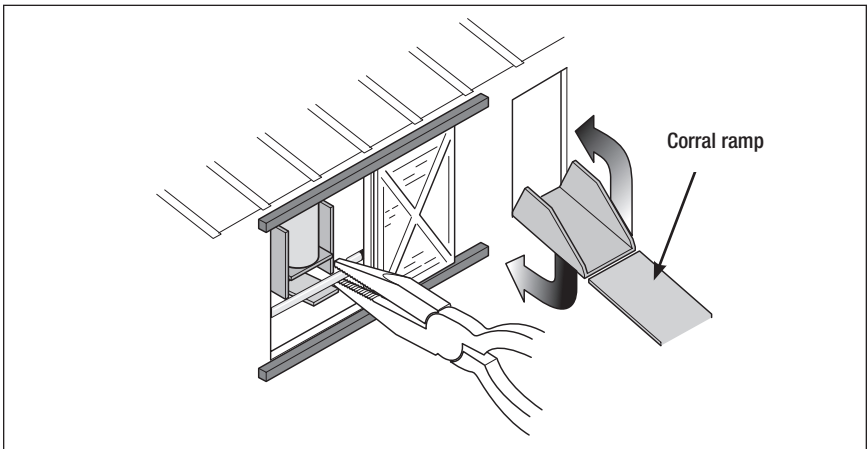

Figure 9. Door adjustment
3. As illustrated in Figure 9, with the rod in the fully raised position, grasp the rod with a pair of pliers to prevent it from rotating, then position the two doors so that they rest flatly on the protrusions at the ends of the corral ramp.